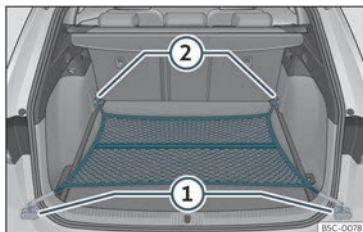

Fig. 125 In the luggage compartment: net bag hooked up at floor level.
- Secure the net hooks to the fastening rings (1) and (2)»» **Fig. 125** »» ⚠. The bag zip should be facing upwards.